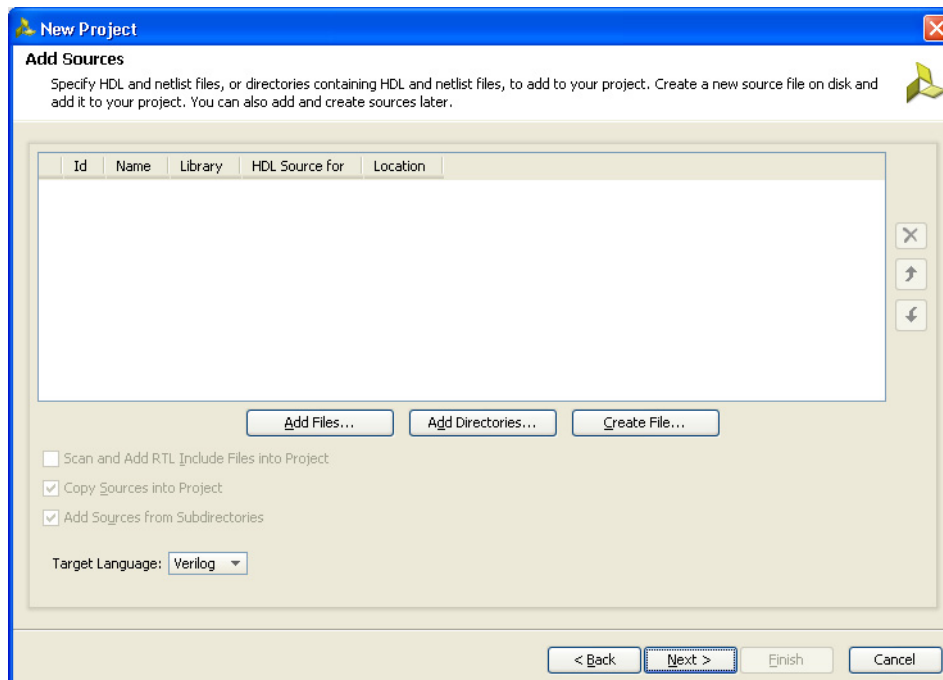

Figure 4-5: Add Sources
5. Click **Next** to proceed to the Add Sources page (Figure 4-5). RTL files can be added to the project in this page. If the project was not created earlier, proceed to the next page.